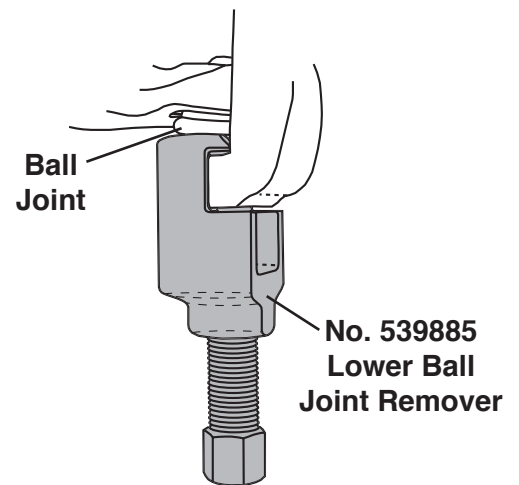

Figure 5
2. Position No. 539885 Lower Ball Joint Remover on the steering knuckle as shown in Figure 5.